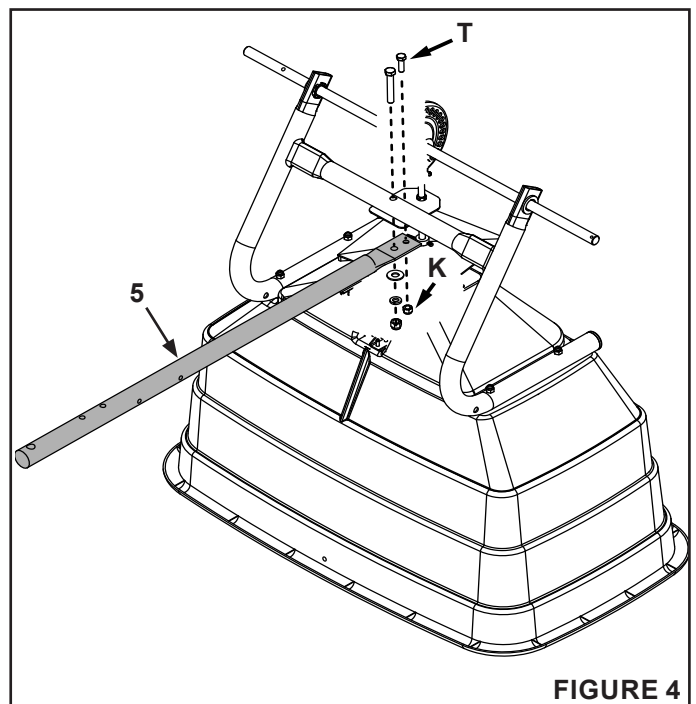

FIGURE 4
STEP 4: (SEE FIGURE 4)
- Turn the assembly over and attach the hitch tube (5) using the pre assembled hardware and a 5/16" X 1" bolt (T) and 5/16 nylock nut (K). See figure 4.